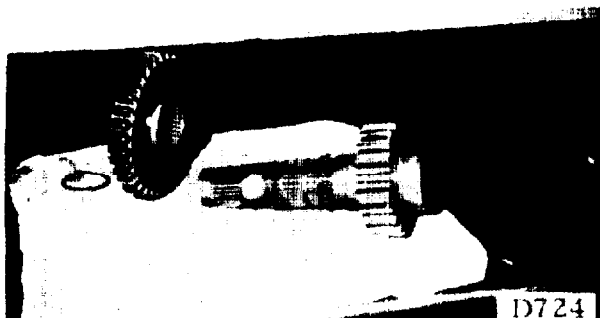

FIGURE 7-65.
- (2). Remove the snap ring, retaining the intermediate gear (see figure 7-65). Press the shaft out of the gear. Remove the second snap ring only if necessary.